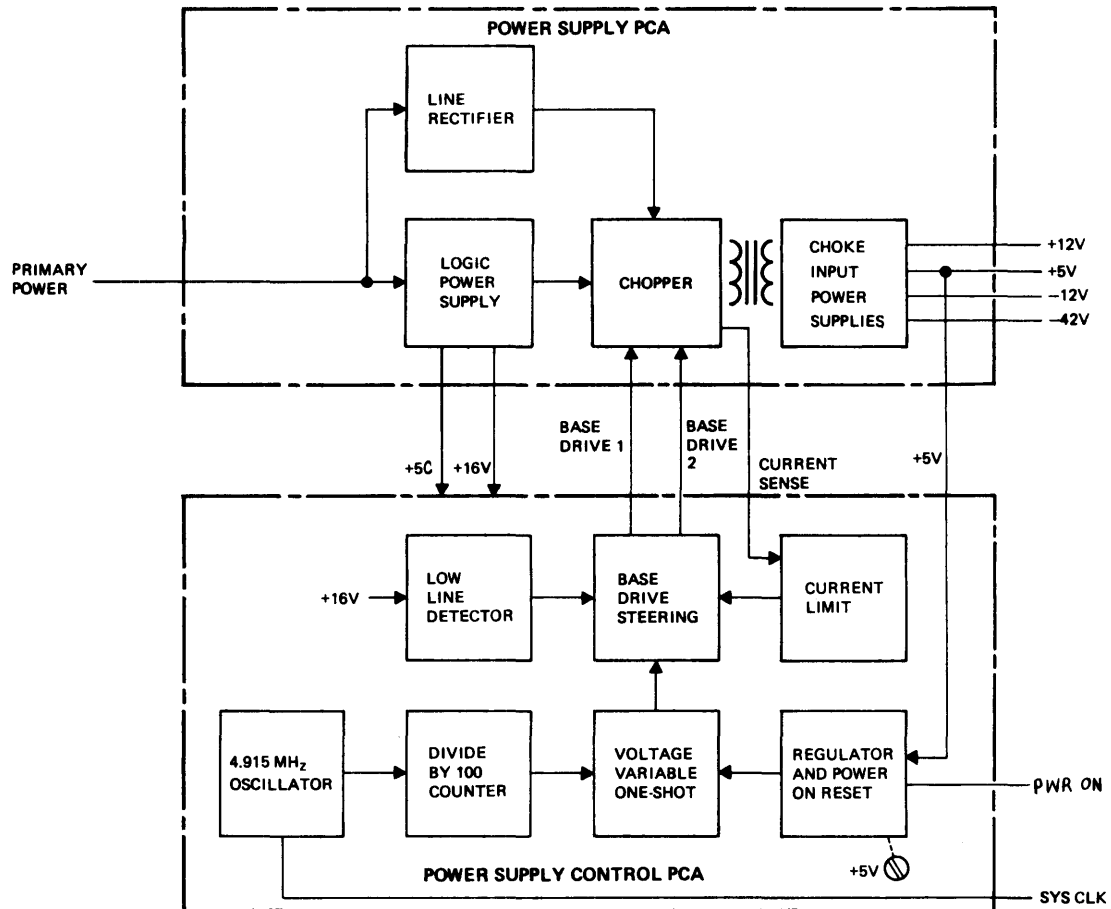
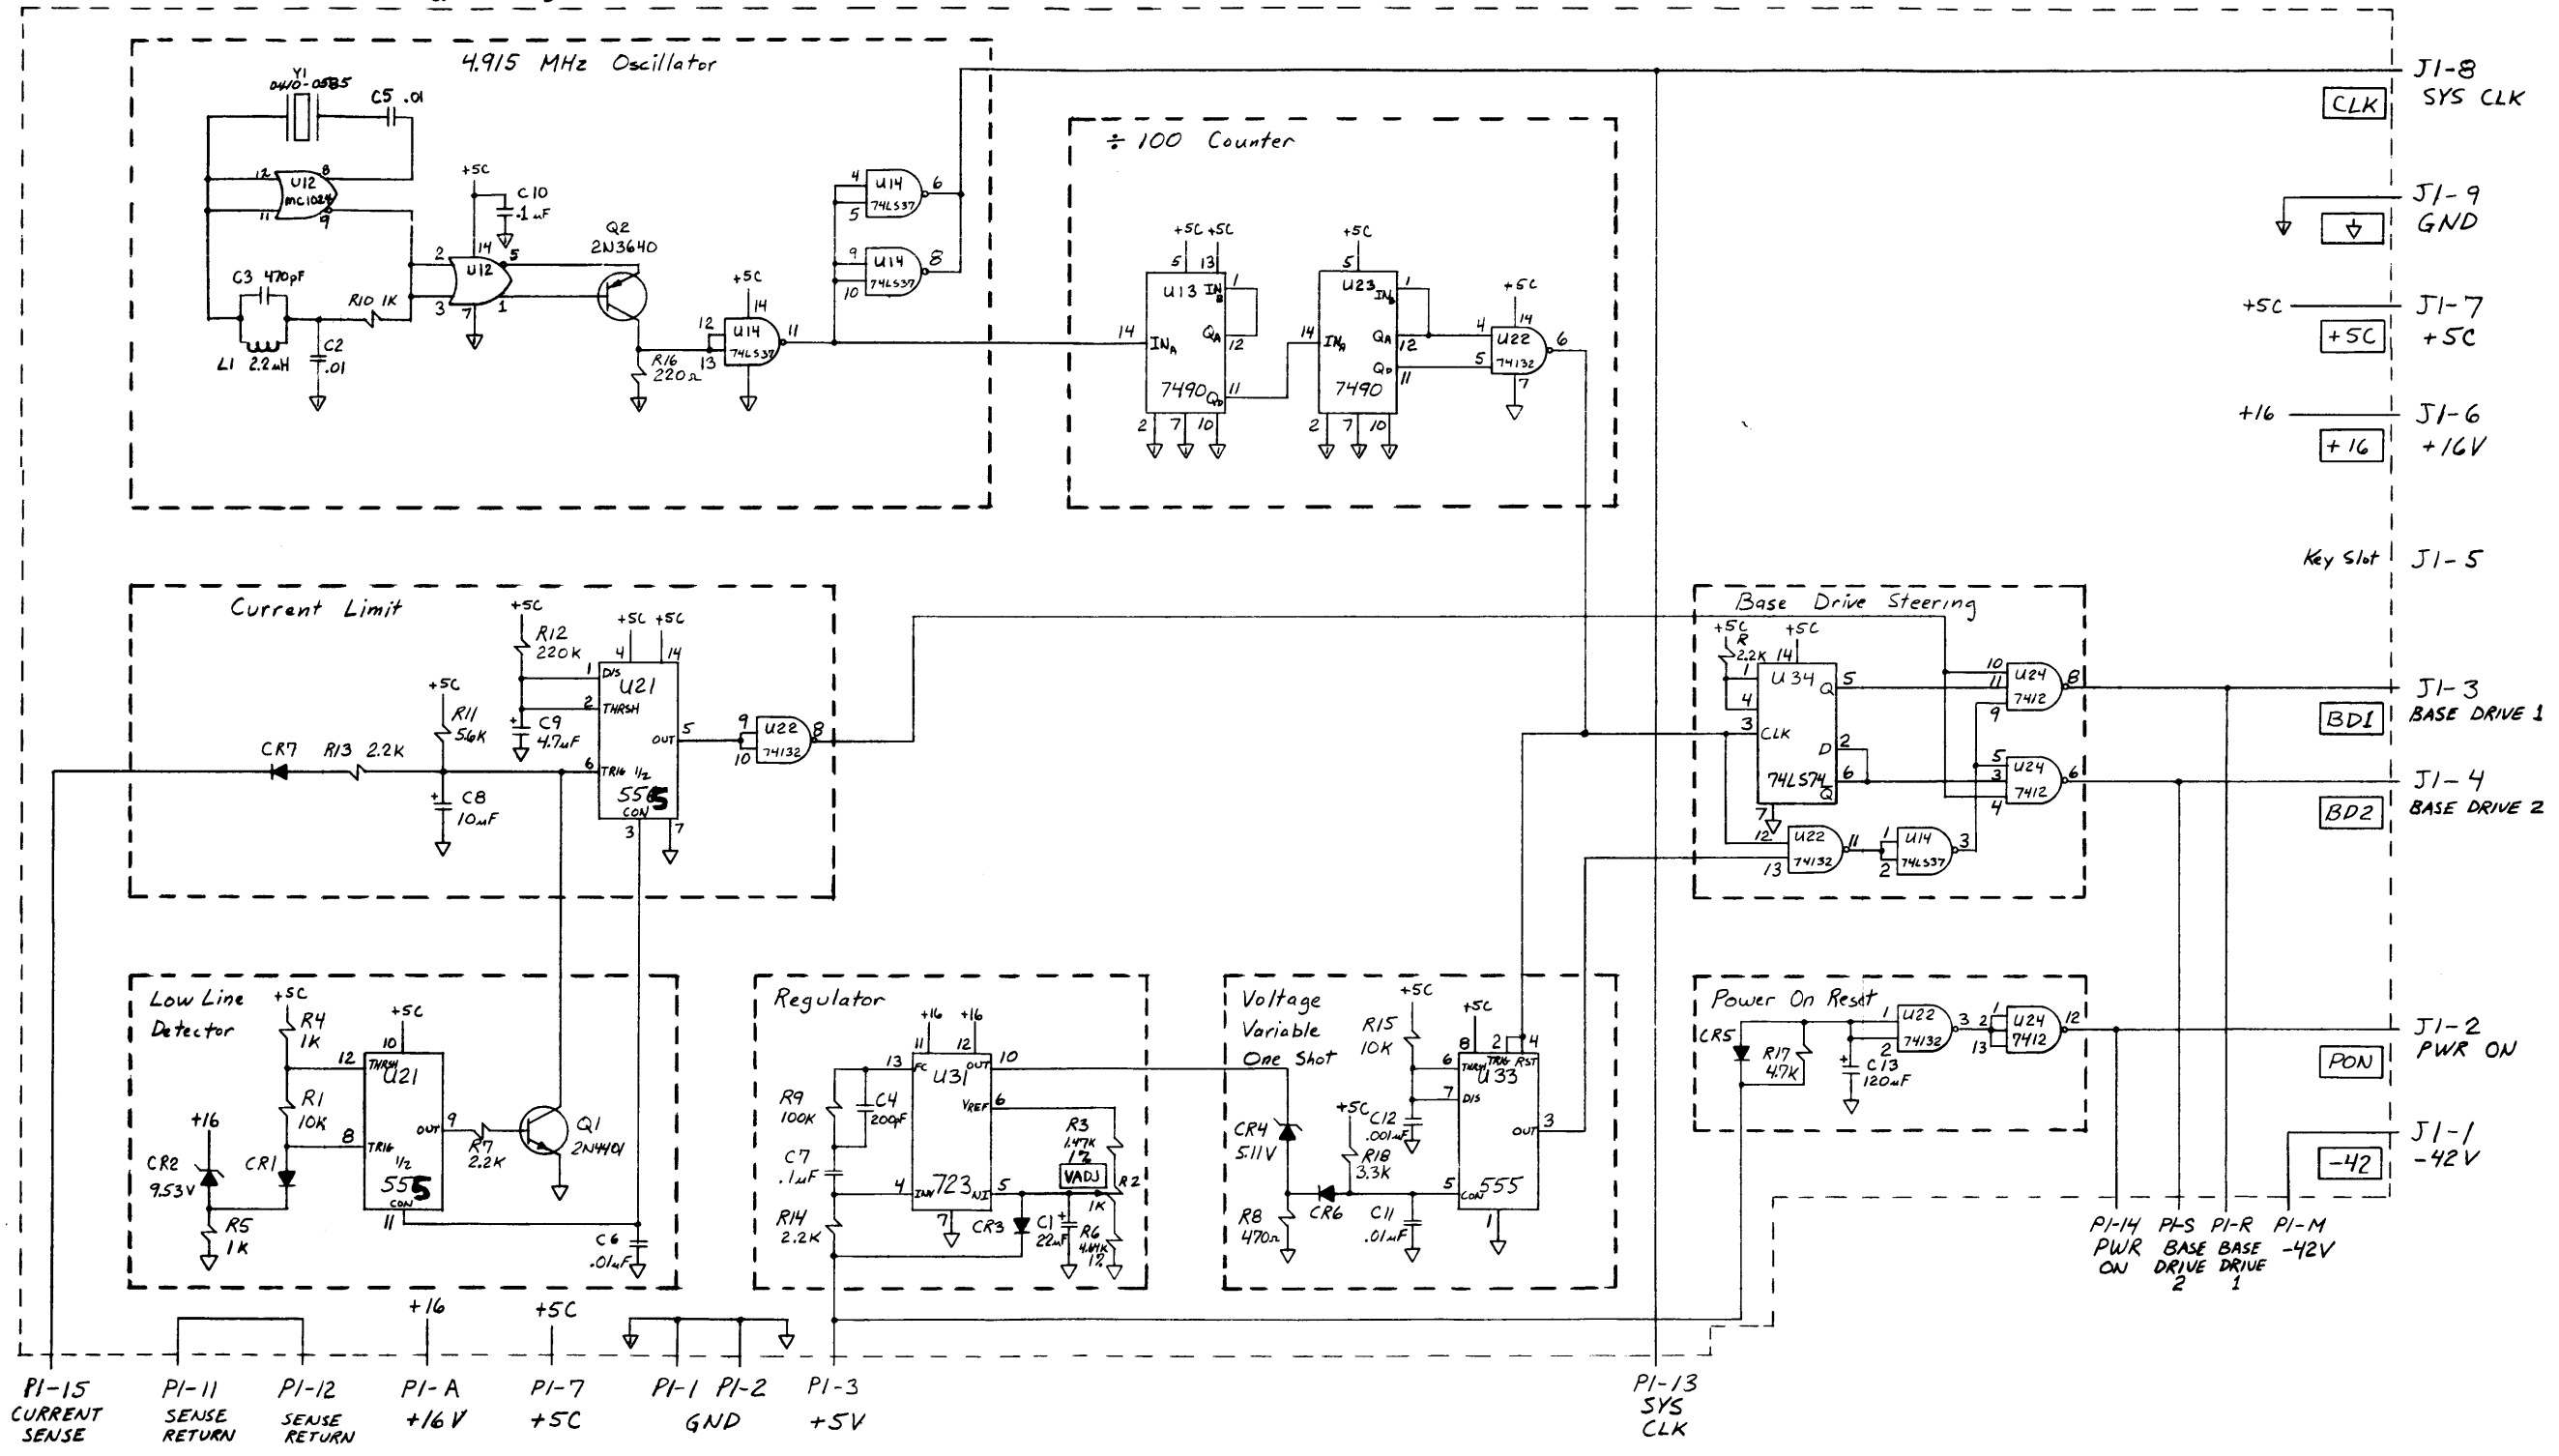
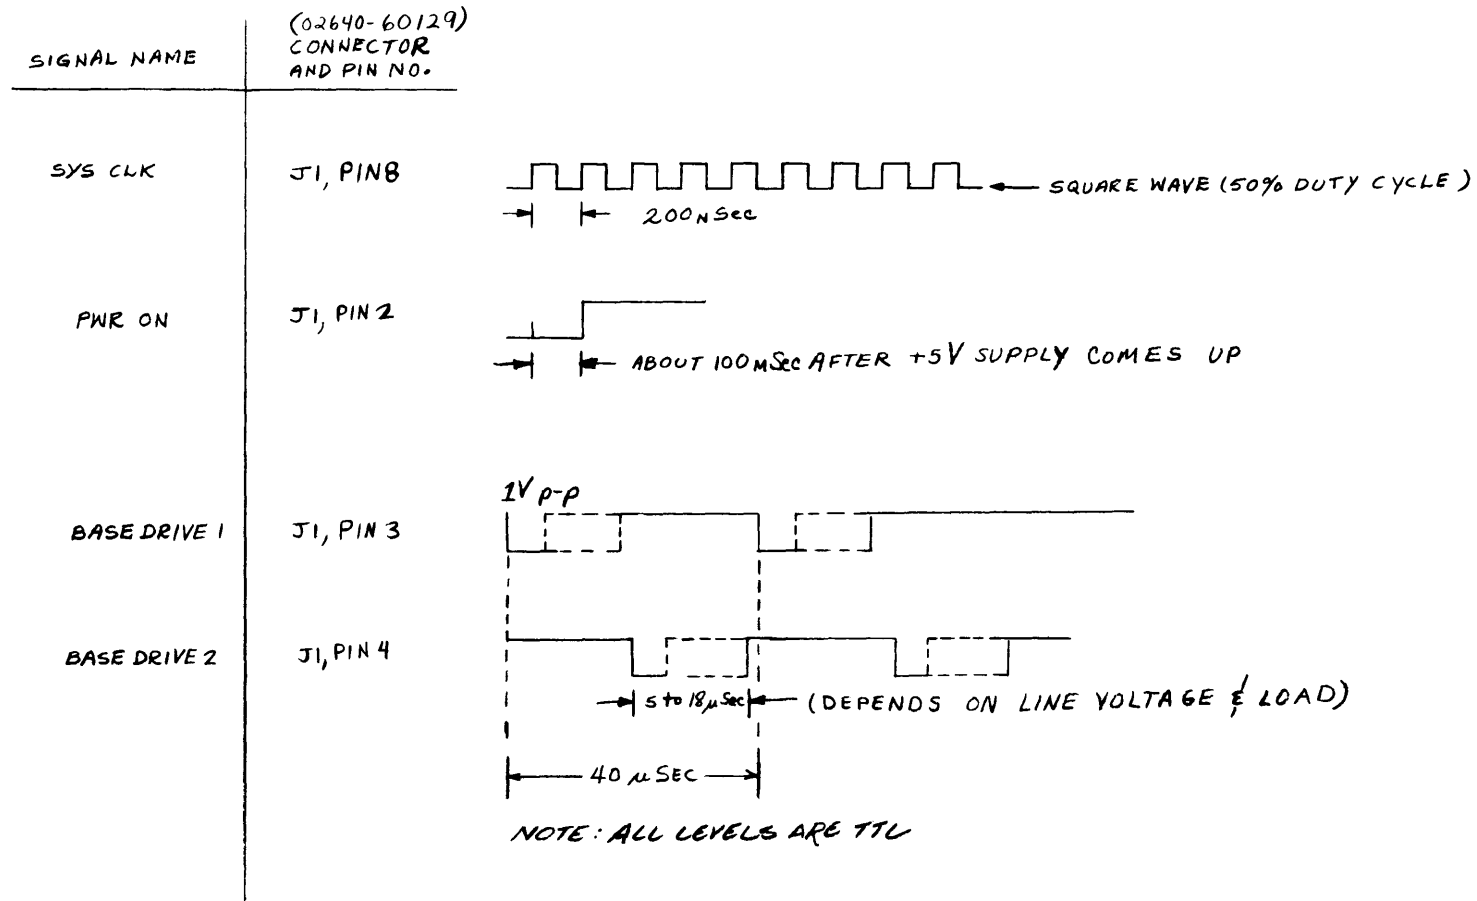
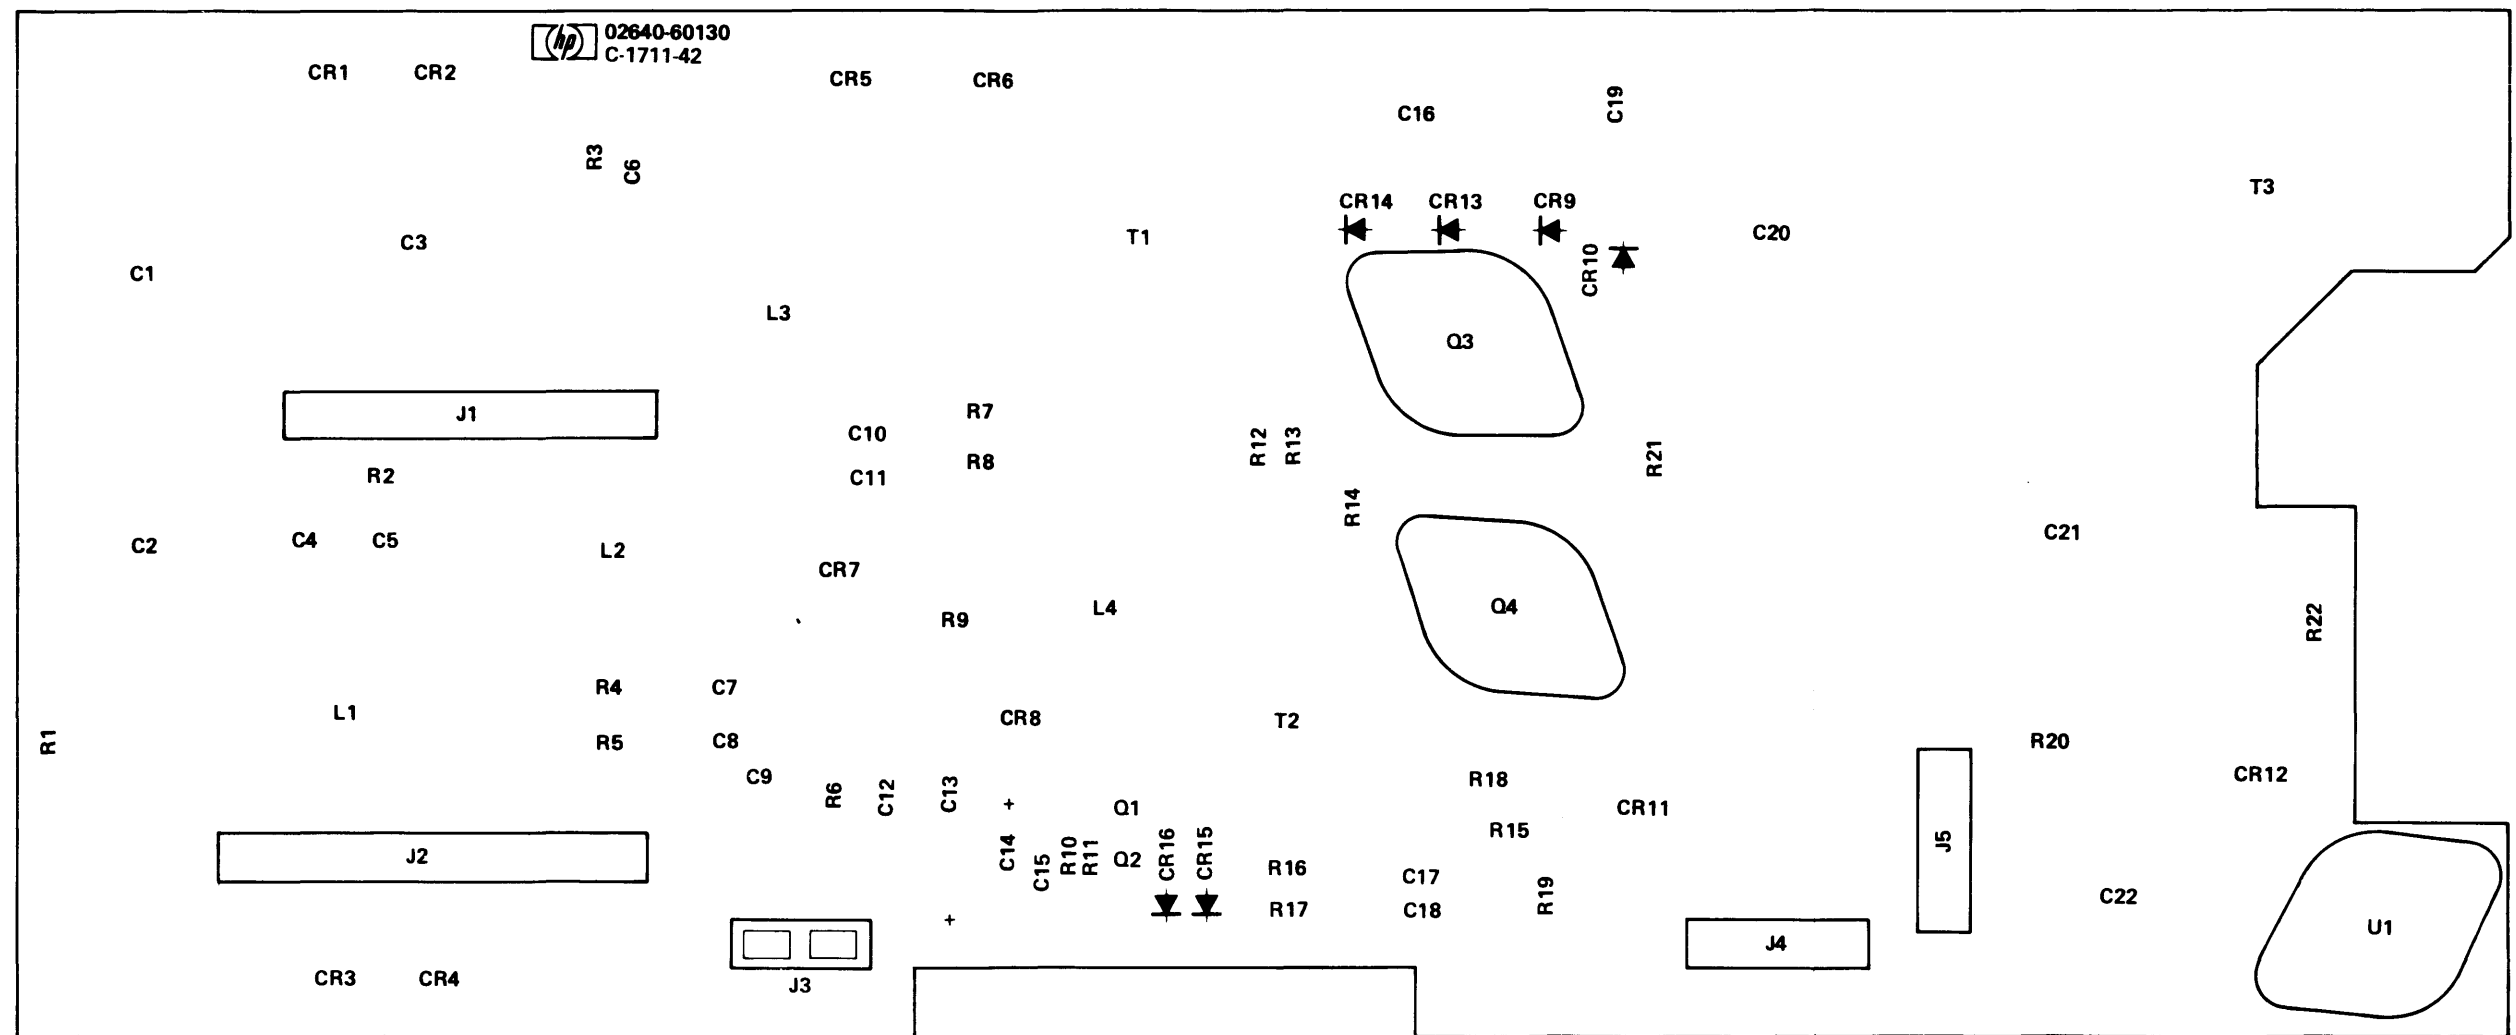

Figure 1
Figure 2
Figure 4
Figure 5
3.0 FUNCTIONAL DESCRIPTION. Refer to the module block diagram (figure 1), schematic diagrams (figures 2 and 3), timing diagram (figure 4), component location diagrams (figures 5 and 6), and parts lists (02640-60169, 02640-60130, 02640-60142, and 02640-60148) located in the appendix.
This block contains four independent choke input power supplies. In each, the pulse output of the power transformer is rectified and applied to a filter choke and then to a filter capacitor. The output voltages are as shown on the block diagram in figure 1. Note that only the +5 volt supply is sensed and regulated by the Power Supply Control PCA. The other voltages track the sensed supply and are kept within their accuracy tolerances without actually being sensed and regulated independently.